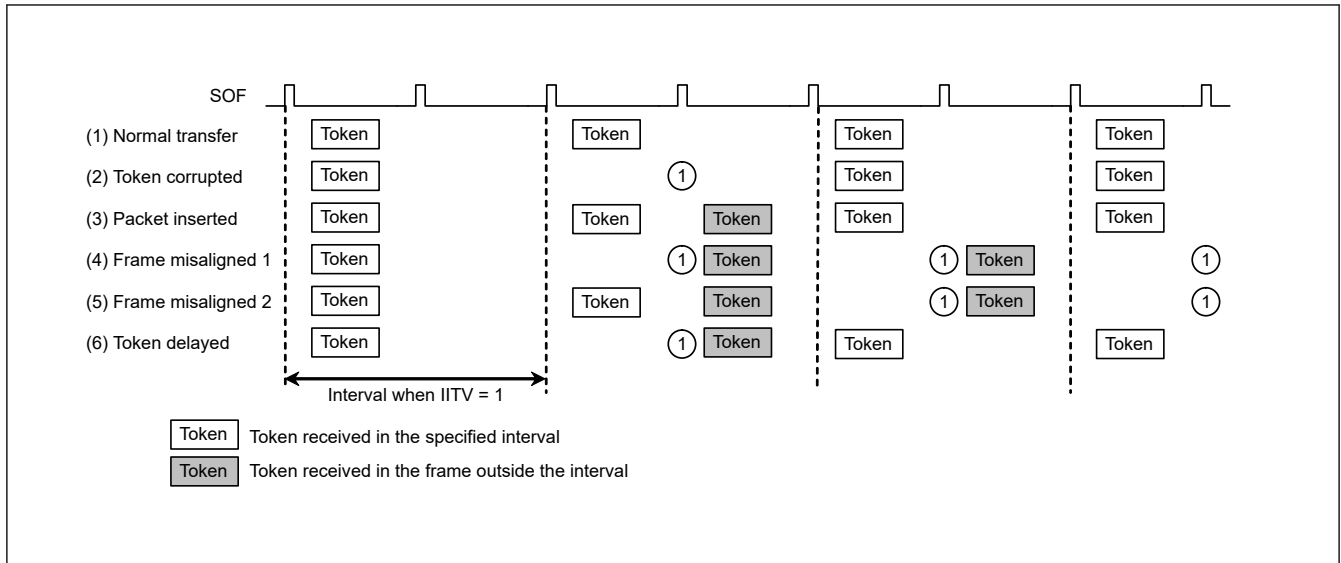

Figure 26.21 Example interval error occurrence when IITV = 1
Figure 26.21 shows an example interval error occurrence. There are five types of interval errors, as shown in the figure. An interval error occurs at timing (A), and the buffer flush function is activated.